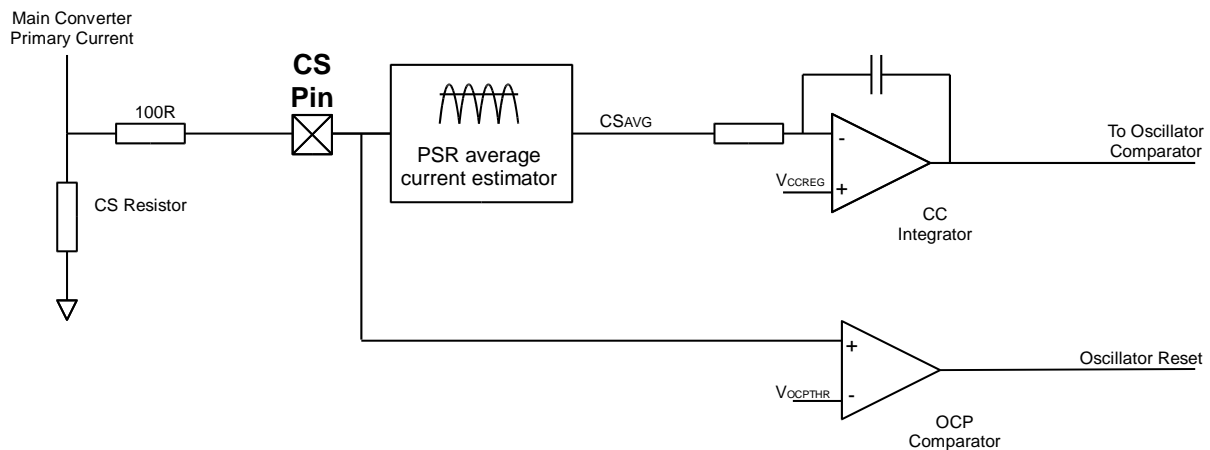

Figure 7: RED2601 Current protection and control circuits
Figure 7 shows the two current control methods used in the converter:
Shown in figure 7 the signal from the CS pin is divided into two different paths. The bottom path provides peak instantaneous over-current protection (OCP) while the PSR Average Current estimation block provides the current regulation (CC) information. The voltage on the CS pin is an AC signal biased around GND. Inside the PSR block this signal is processed to provide a voltage proportional to the average converter output current.
The CC regulation circuit is shown in Figure 7. CC operation is defined by an internally compensated control loop. This provides a system response time of approximately 300us in a typical application. The average current regulation point, V_{CCREG} is pre-set to 150mV, referred to the CS pin.